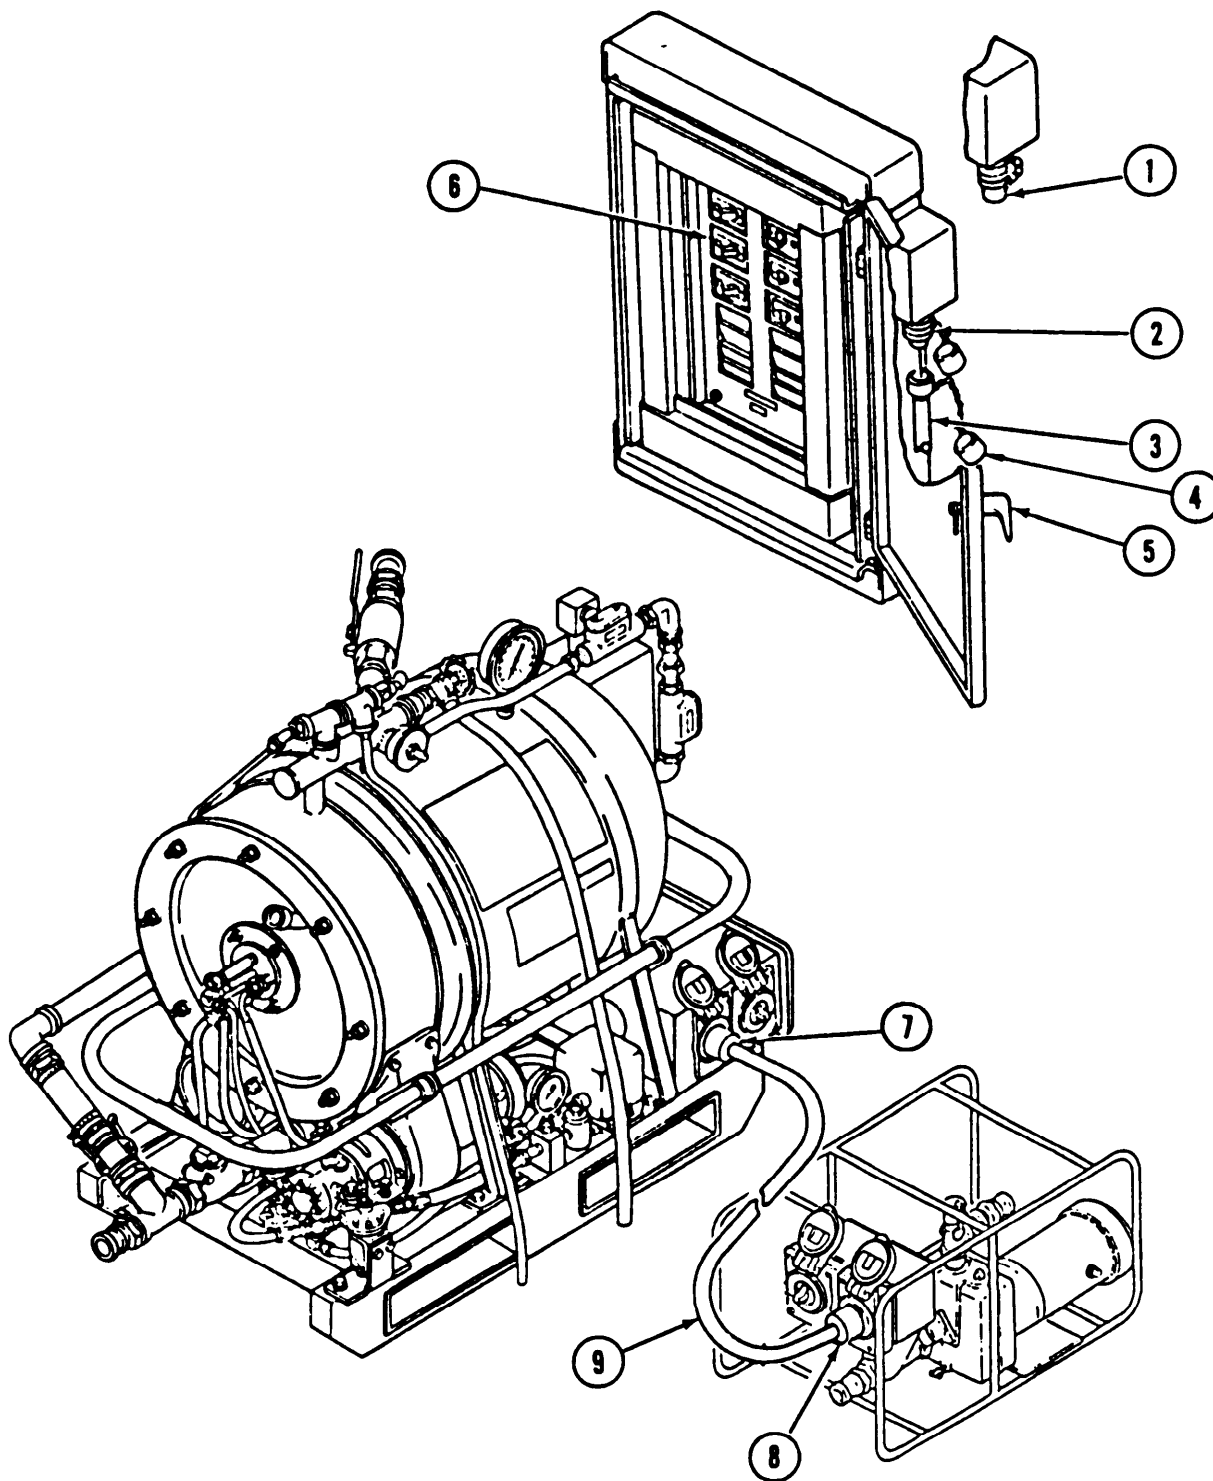

Figure 2-11. Electrical Panel Cable Connection
- (1) Open electrical panel door (5, figure 2-11) and turn off all circuit breakers(6).
- (2) Remove dust cap (1) on main power connection (2).
- (3) Remove dust cap (4) from main power cable (3).
Be sure that water pump cable (9, figure 2-11) does not touch or cross water hoses, exhaust ducts, or fuel lines. Melting/damage can occur causing leaking fuel and water or electrical hazards. Death by electrocution, fire, or explosion could result.